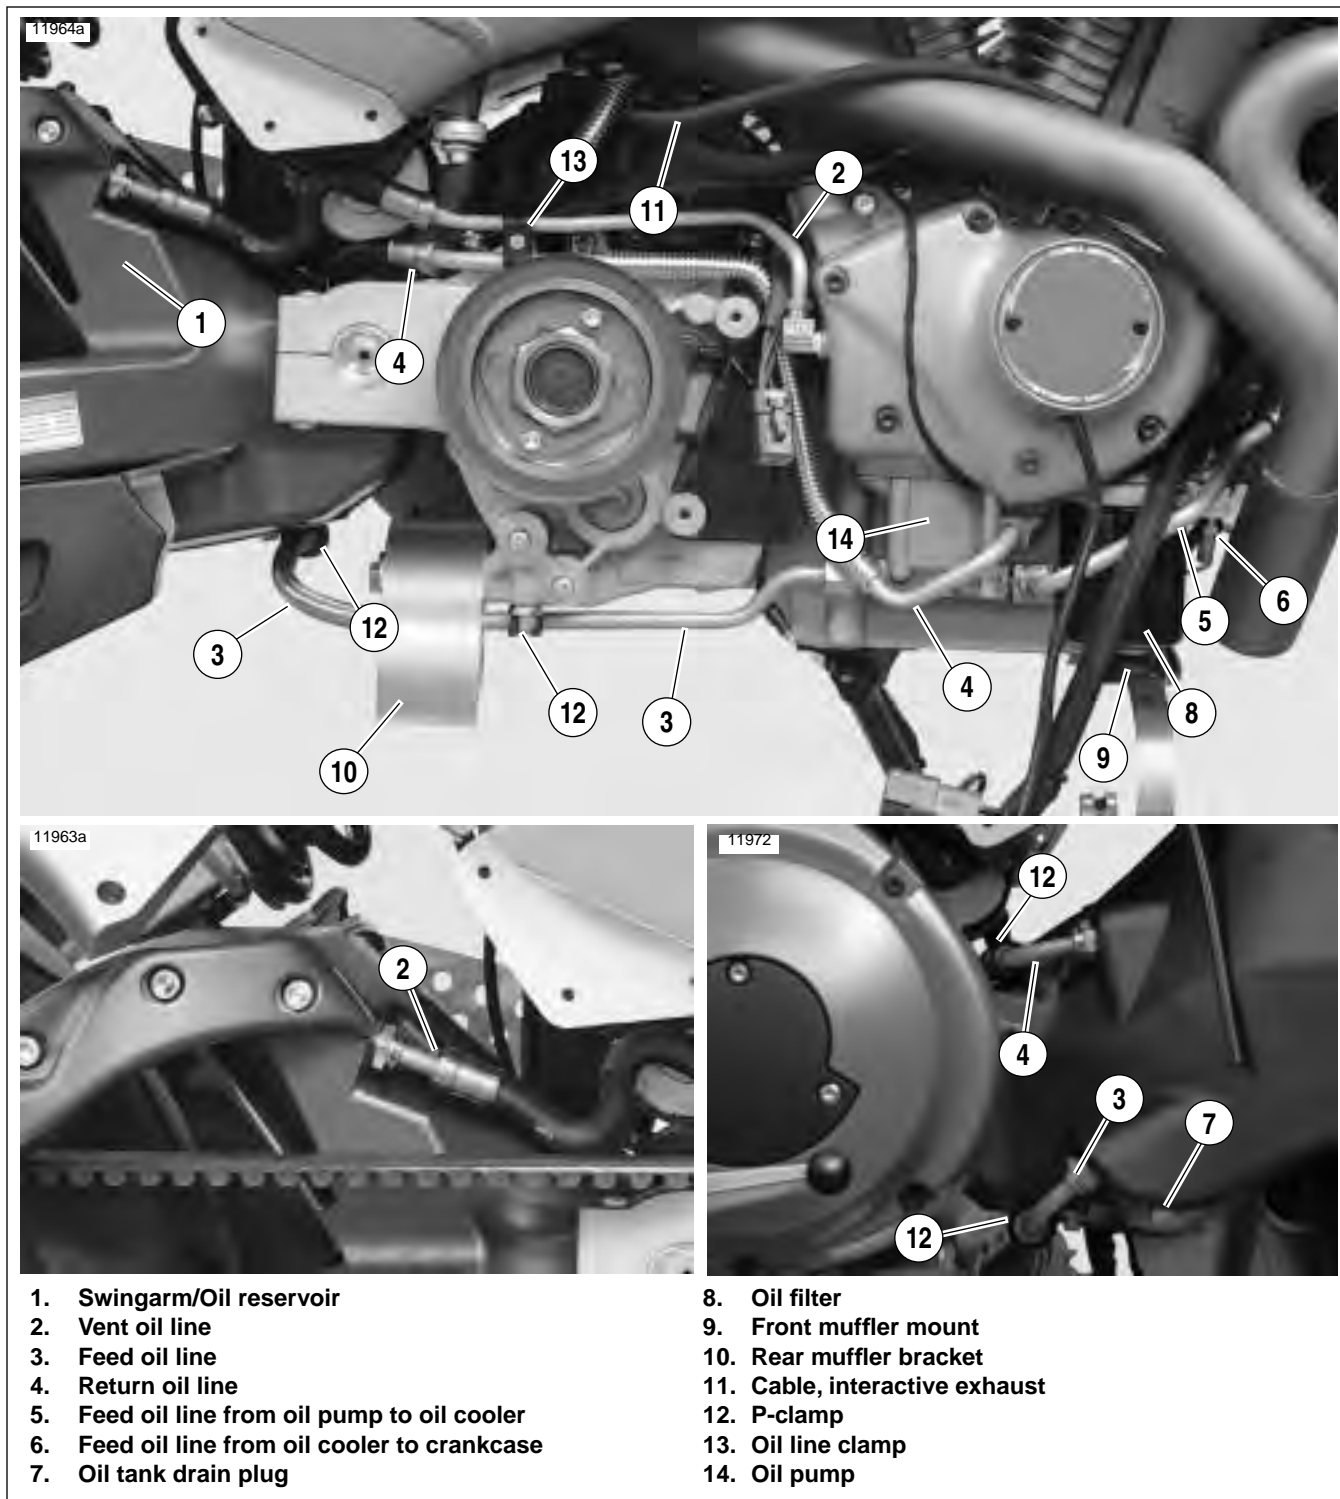
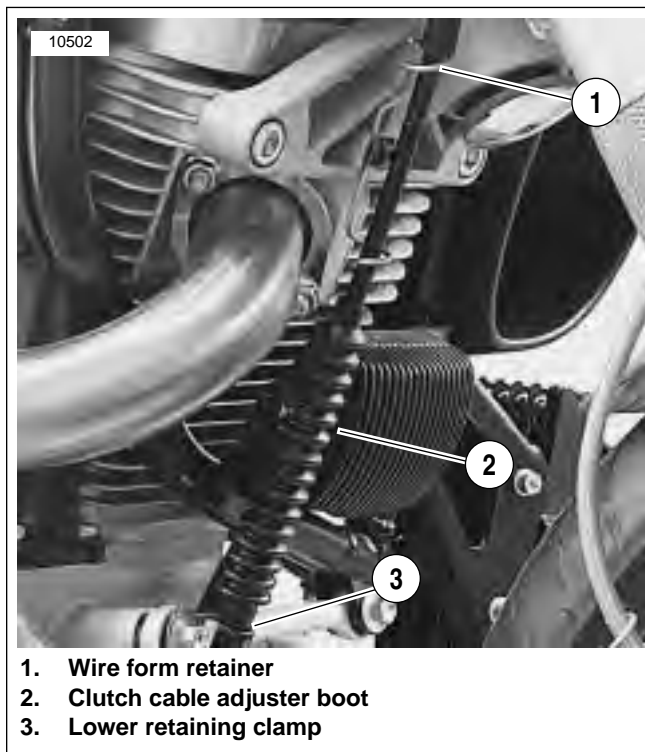

Figure 3-17. Oil Lines and Connections
Figure 3-20. Clutch Cable Wire Form Retainer, Retaining Clamp and Adjuster Boot
17. See Figure 3-17. Remove oil filter.
22. See Figure 3-17. Remove vent oil line (2).
- a. Disconnect vent oil line (2) at gearcase cover.
- b. Remove clamp (13) in front of starter securing vent oil line to return oil line.
- c. Disconnect vent oil line at swingarm/oil reservoir (1) and remove. See 3.10 OIL LINE FITTINGS/REMOVAL.
23. See Figure 3-17. Remove feed oil line (3).
- a. Loosen fitting at oil pump (14).
- b. Remove two p-clamps (12) from feed oil line (one on crankcase and one on swingarm/oil reservoir).
- c. Remove feed oil line (3) at oil pump (14).
25. See Figure 3-17. Remove return oil line (4).
- b. See Figure 3-17. Loosen fitting at oil pump (14).
- c. Remove p-clamp (12) at swingarm/oil reservoir (1).
- d. Disconnect oil return line (4) at swingarm/oil reservoir (1). See 3.10 OIL LINE FITTINGS/ REMOVAL.
- e. Disconnect oil return line (4) at oil pump (14) and remove.
27. See Figure 3-20. Disconnect clutch cable.
- a. Remove wire form retainer (1) from front isolator.
- b. Slide clutch cable adjuster boot (2) up to access clutch adjuster.